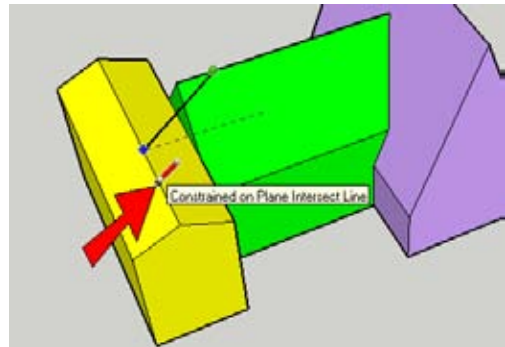

Figure 5-60
10. Start a new line at this new endpoint. Then hover over either green roof face and hold Shift. Constrain this line to end on the yellow ridge line by clicking the yellow ridge line (Figure 5-60).